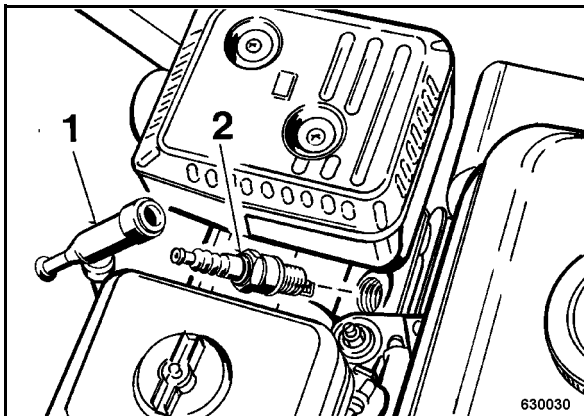

Fig. 45
- Pull off the spark plug socket (1) (Fig. 45) and unscrew the spark plug (2).